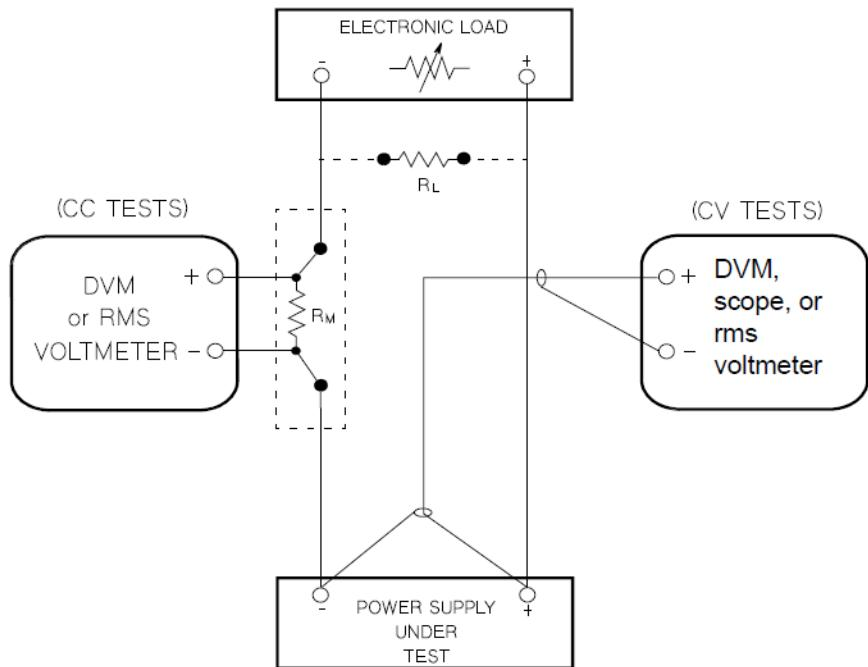
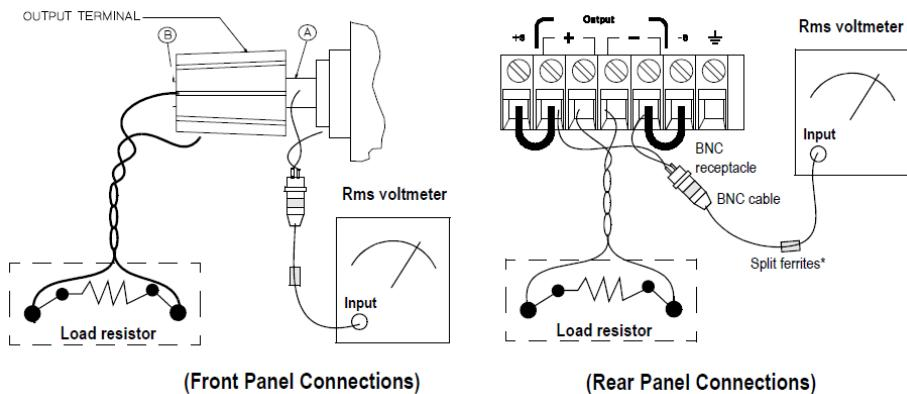

Figure 8-2 Performance verification test setup
Figure 8-4 Front/rear panel terminal connections for the Vrms measurement
Most tests are performed at the front terminals as shown in Figure 8-2. Measure the DC voltage directly at the (+) and (-) terminals on the front panel.
To eliminate the output current measurement error caused by the voltage drops in the leads and connections, connect the current-monitoring resistor between the (-) output terminal and the load as a four-terminal device. Connect the current-monitoring leads inside the load-lead connections directly at the monitoring points on the resistor element (refer to R_M in Figure 8-2).
- 1 Turn off the power supply and connect a digital voltmeter between the (+) and (-) terminals of the output to be tested as shown in Figure 8-2.
- 1** Turn off the power supply and connect a digital voltmeter between the (+) and (-) terminals of the output as shown in Figure 8-2.
For better measurement results, it is recommended to make the connection between the BNC receptacle and the output terminals as short as possible, and to use the recommended split ferrites with the BNC-to-BNC cable as shown in Figure 8-4.
- 1 Turn off the power supply and connect the output to be tested as shown in Figure 8-2 to an oscilloscope (AC coupled) between the (+) and (-) terminals. Set the oscilloscope to the AC mode and bandwidth limit of 20 MHz. Connect a resistive load (13.5Ω)^[1] to the terminal at **B** as shown in Figure 8-4.
- 5 Disconnect the oscilloscope and connect the AC rms voltmeter in its place according to the “Vrms measurement techniques” on page 218 and as shown in Figure 8-4. The rms voltage reading must not exceed the rms limit of 0.5 mV^[4] or 1 mV^[5].
- 1 Turn off the power supply and connect the output to be tested as shown in Figure 8-2 with an oscilloscope. Operate the electronic load in the constant current mode.